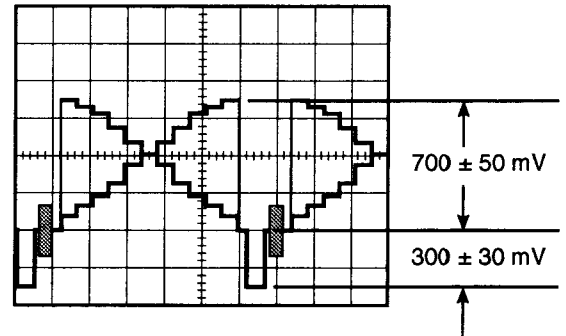

Fig. 5-28
- Confirm that the Video signal becomes 700 ± 50 mV as shown in Fig. 5-28.
- If not, adjust data with the **ARROW** keys so that the Video signal level becomes 700 ± 50 mV as shown in Fig. 5-28.